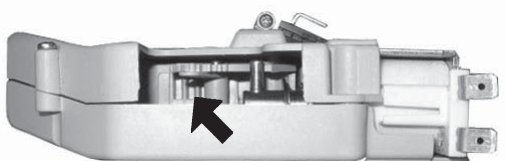

Fig. 34
- release the adjusting lever from the rack and place the dragging tooth of the inner panel on one of the 4 positions available, which indicate the basic quantity area (6 gr. – 7 gr. – 8 gr. – 9 gr.) (Fig. 34);